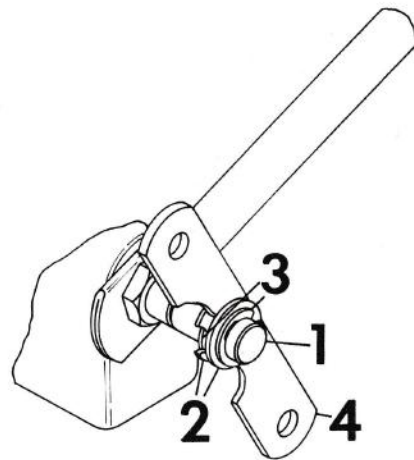

Fig. 12
5. For tractors with a battery box, install an "E" ring in the middle groove of the pivot stud, add a flat washer, next install the pivot plate and another flat washer and secure with an "E" ring. See fig. 12.